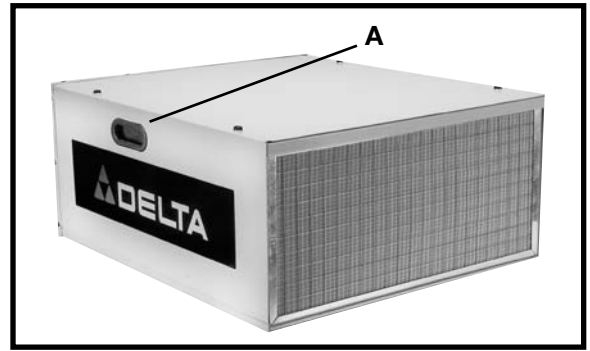

Fig.4
The air cleaner cabinet has convenient lifting handles located on either side (one of which is shown at (A) in Fig. 4). To avoid damage to the air filters, carry the air cleaner with the filters positioned away from your body.